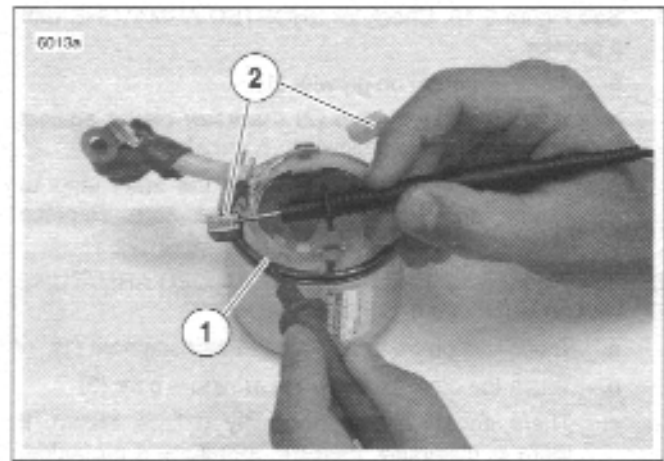
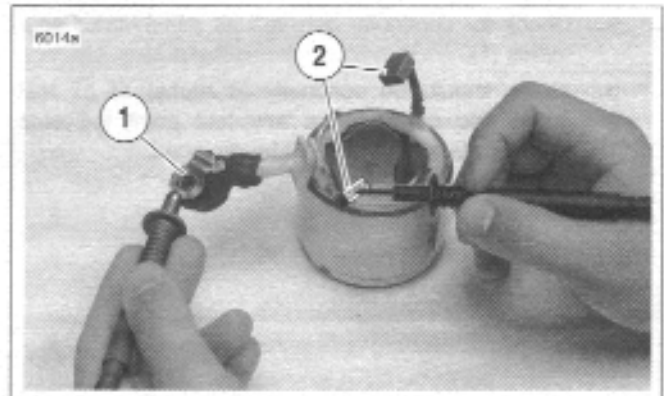
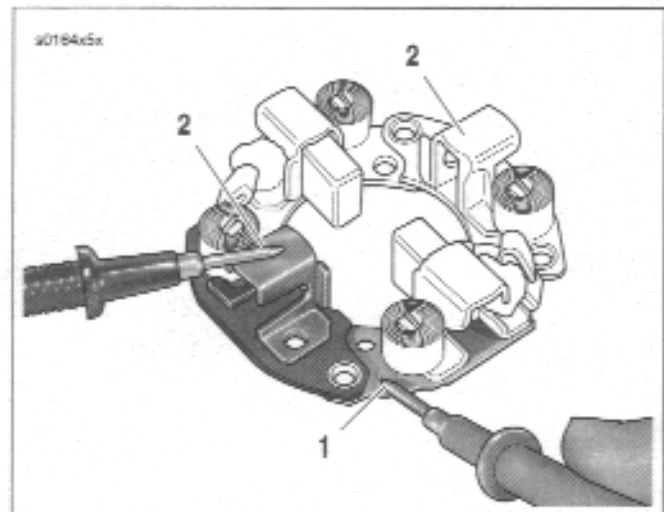

Figure 5-21. Grounded Field Test
Figure 5-22. Open Field Test
Figure 5-23. Brush Holder Insulation Test
12. See Figure 5-21. Check for GROUNDING FIELD COIL with an ohmmeter or continuity tester.
- a. Touch one probe to the frame (1).
- b. Touch the other probe to each of the brushes (2) attached to the field coil.
13. See Figure 5-22. Check for OPEN FIELD COILS with an ohmmeter or continuity tester.
- a. Touch one probe to the field wire (1).
- b. Touch the other probe to each of the brushes attached to the field coil(s) (2).
14. See Figure 5-23. Test BRUSH HOLDER INSULATION with an ohmmeter or continuity tester.
- a. Touch one probe to holder plate (1).
- b. Touch the other probe to each of the positive (insulated) brush holders (2).